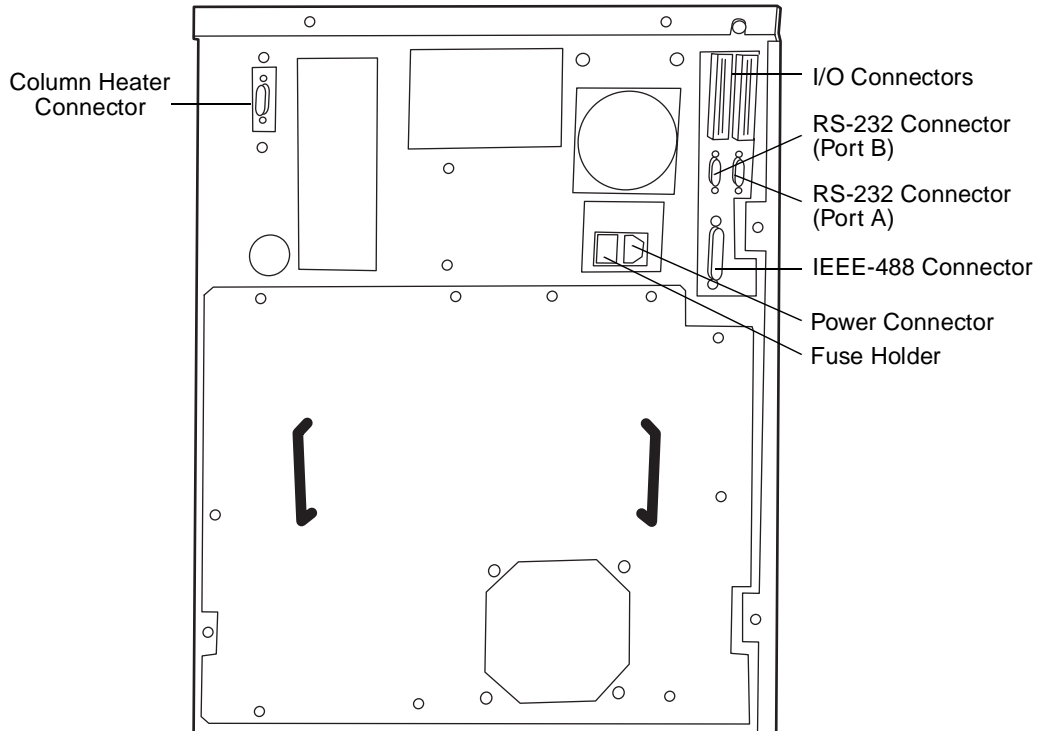

Figure 2-3 Rear Panel of the 2690 Separations Module (400 W Model)
- Correct fuse is installed (400 W model only; 600 W model does not contain a replaceable fuse). Refer to Figure 2-3 for a view of the 400 W model rear panel.
1. Ensure that the Power On/Off switch is in the Off (0) position, then remove the power cord from the rear panel of the instrument (see Figure 2-3).
2. Use the flat-blade screwdriver to remove the fuse holder, which is located next to the power connector on the rear panel of the Separations Module (see Figure 2-3).